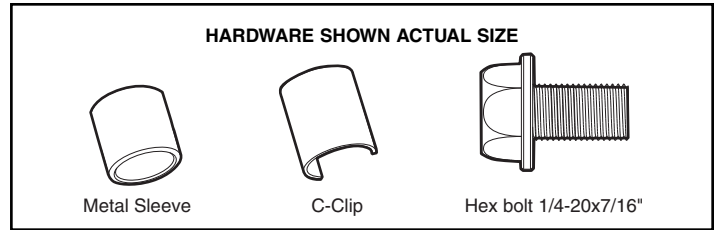

Figure 1
3. Attach rail support braces to the back rail. Loosely insert 1/4-20x7/16" hex bolts into the aligned holes of the end rail and rail support brace (Figure 1). Do not finger tighten.